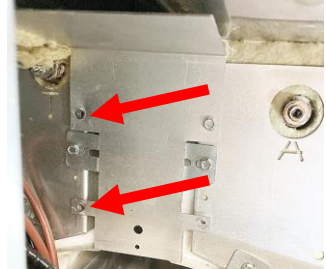

Figure 32
35. Remove the two (2) screws from the other side of the shield between the frypots and set shield aside (see Figure 32).